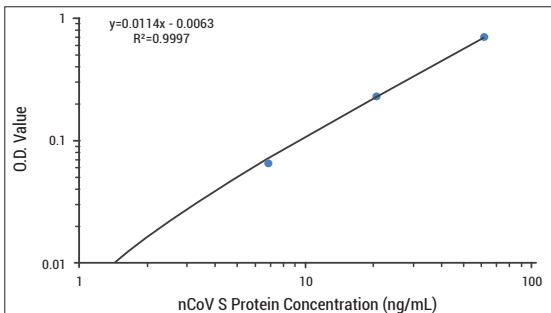

Figure 1. Typical calibration curve of the supplied Calibration standards. Data was analyzed using MS Excel® software.
3. Generate a standard curve by plotting the known Calibrator amounts (x-axis) versus O.D. value (Y-axis) as log₁₀ values or using a logarithmic scale. Determine the linear regression equation for the data and ensure that the R² value is close to 1 (see Figure 1).